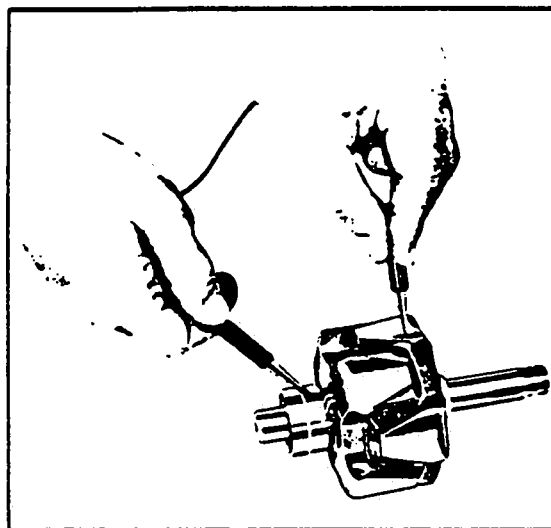
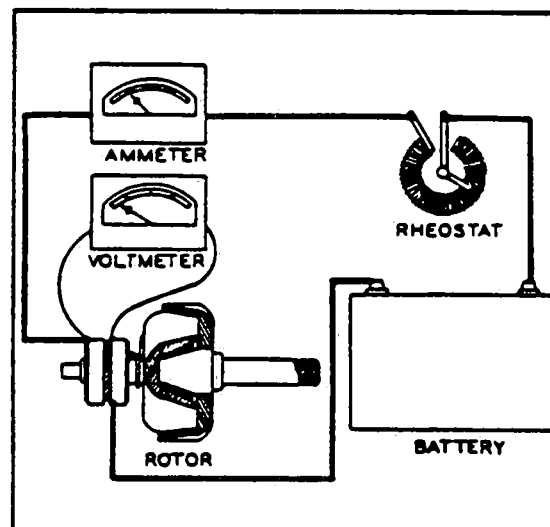

Figure 11-26. Testing Rotor For Grounds
Figure 11-27. Testing Rotor For Shorts
a. Rotor: The rotor should be tested for grounded or shorted windings. The ground test can be made with test probes, connected in series with a 110-volt test lamp, an ohmmeter or any type of continuity tester. (Refer to Figure 11-26.) There must not be any continuity between the slip rings and the rotor shaft or poles. To test for shorted turns in the rotor winding, connect a voltmeter, ammeter and rheostat as shown in Figure 11-27, or use an ohmmeter. Rotor current draw and resistance are listed in the individual specification pages. Excessive current draw or a low ohmmeter reading indicates shorted windings. No current draw or an infinite ohmmeter reading would indicate an open winding.